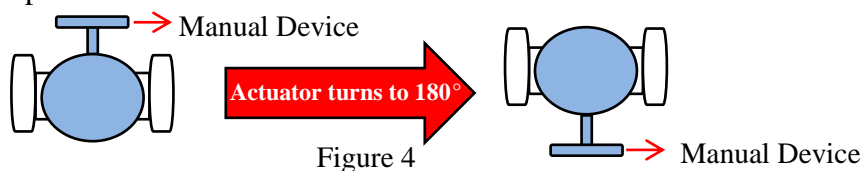

Figure 4
- After the actuator and valve are assembled completely, if the direction of the actuator (blue marked) needs to be changed according to actual working condition (Figure 4), please perform the adjustment steps as follows: